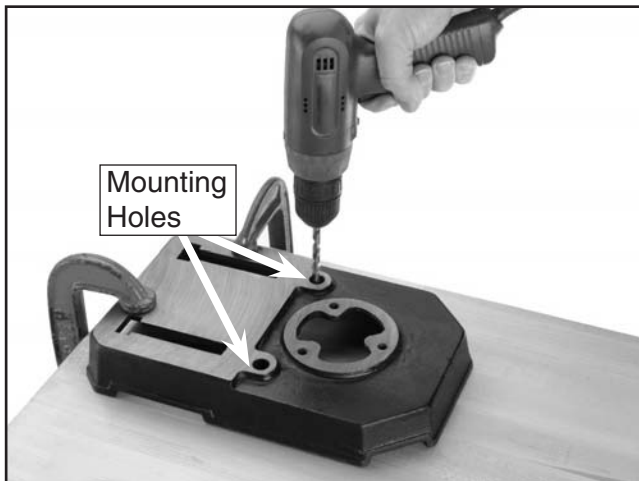

Figure 6. Using holes as a drilling guide.
1. Clamp the base on a bench top capable of holding approximately 50 lbs. plus the weight of the workpiece using two clamps, as shown in **Figure 6**. Make sure the surface is flat and stable.